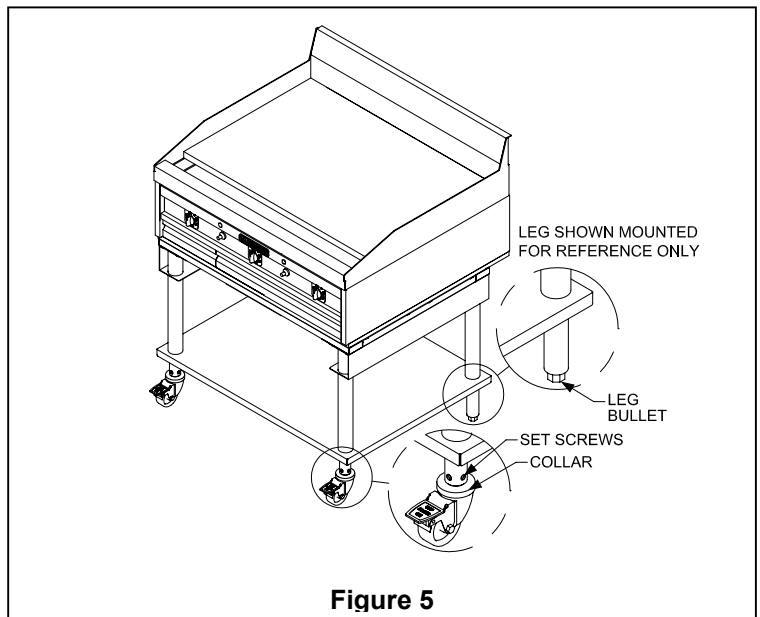

Figure 5
2. **Legs-** using a wrench, or pliers turn the leg bullet, See Figure 5, CCW to raise the height of the equipment stand. There is 1/2" to 3/4" of adjustment.
Castors- (For Stands shipped after May 2006) Using a Flat Head screwdriver, loosen the set screws of the caster to be leveled, See Figure 5. Turn the collar of the